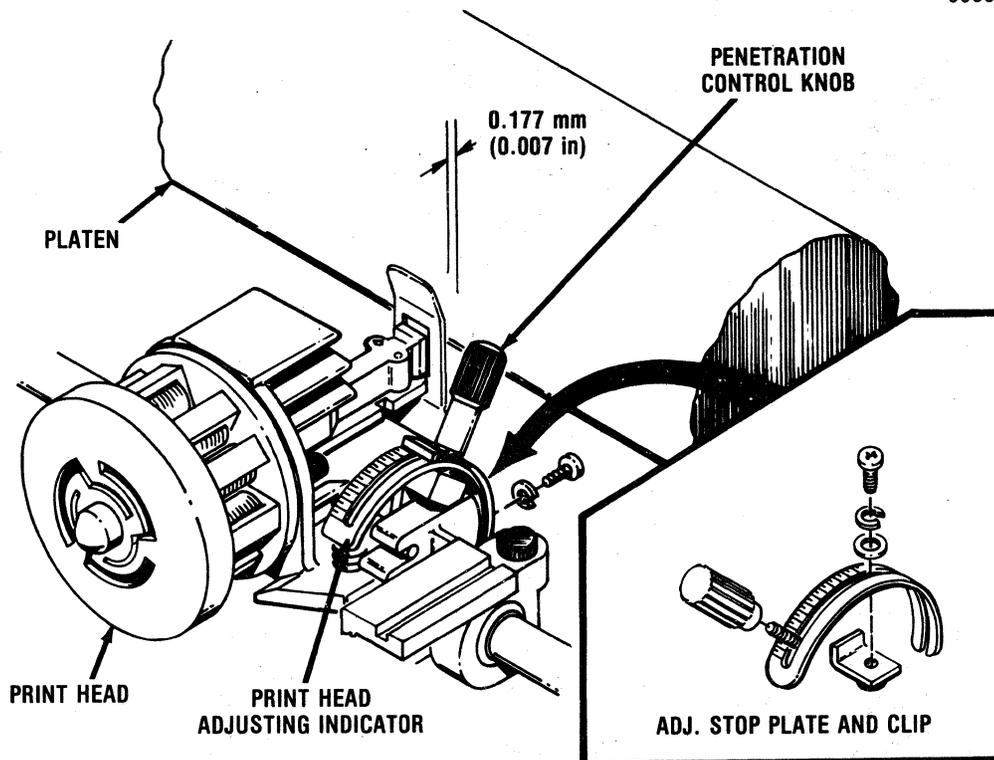

Figure 6-1 Penetration Adjustment
6.2.1 PENETRATION ADJUSTMENT, PRINT HEAD ASSEMBLY—Refer to Figure 6-1.